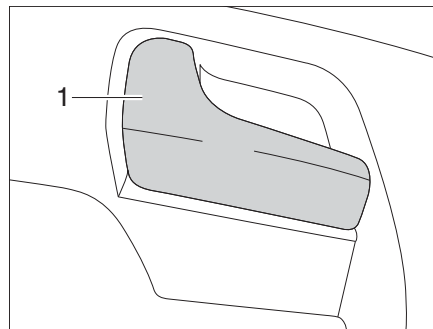

Fig. 43 Door lock of driver's door, inside
- Pull on the handle (Fig. 43,1). The door lock is unlatched.